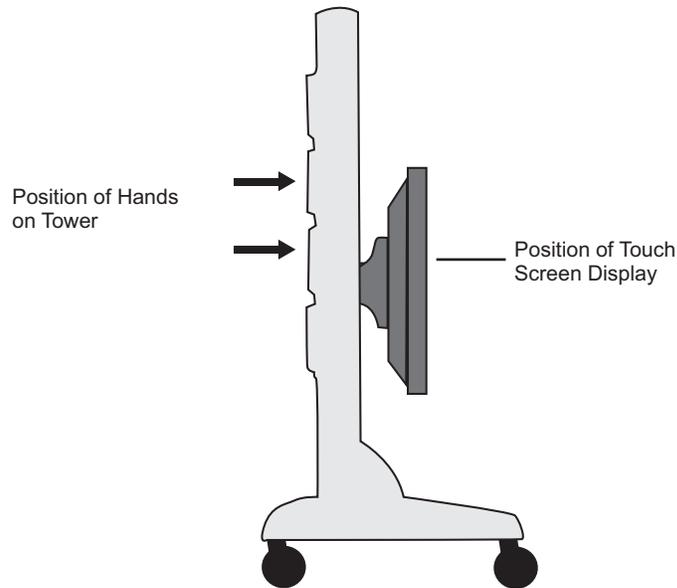

Figure 17: Correct Position for Moving Portable Display Stand
1. Carefully push the touchscreen display monitor down to the lowest position on the tower of the portable display stand. See Figure 17.
3. Push the portable display stand from the side with both hands on the tower. See Figure 17.